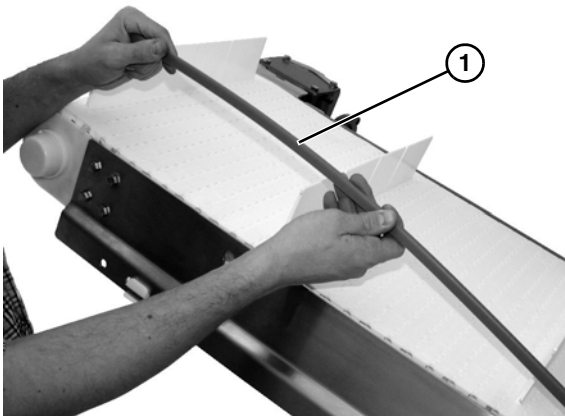

Figure 34
1. Remove worn bar cap (Figure 34, item 1) by lifting off of conveyor side rail.